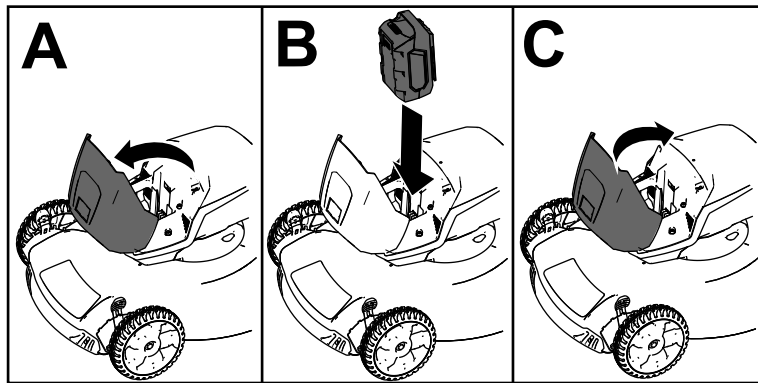

Figure 10
2. Lift up the battery-compartment lid (A of Figure 10).
3. Line up the cavity in the battery pack with the tongue on the machine and slide the battery pack into the compartment until it locks into place (B of Figure 10).
4. Close the battery-compartment lid (C of Figure 10).